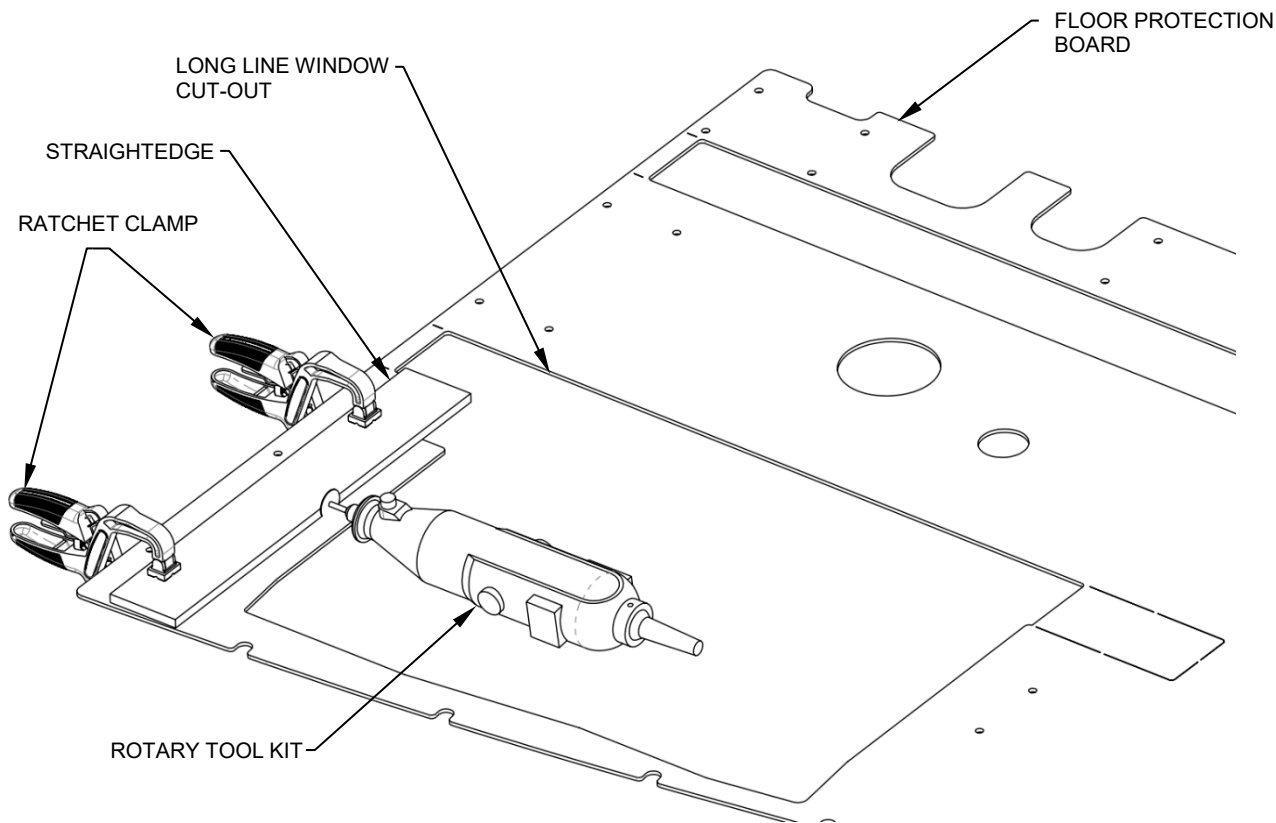

Figure A1
4. Use a straightedge guide and ratchet clamps to hold it in place on the panel for an even and straight cut. Reference Figure A1.